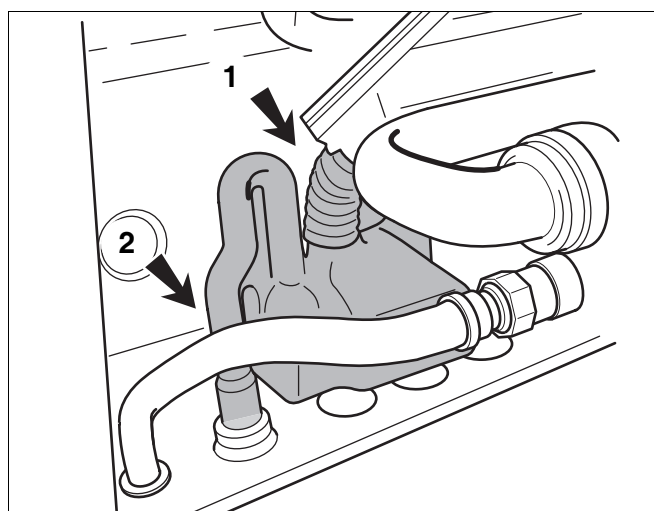

fig. 98 Dismantling the condensate trap connection to the condensate collector
- Dismantle the condensate trap connection to the condensate collector (see fig. 98, pos. 1).